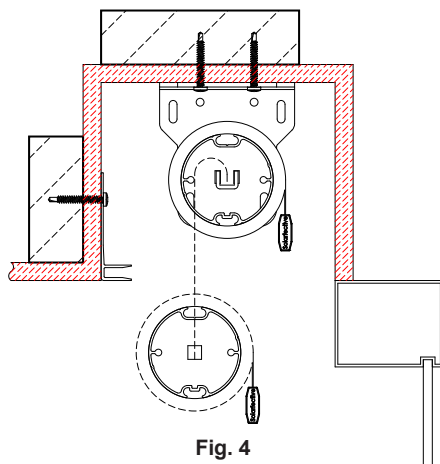

Fig. 4
- 4 If a single-banded shade: Insert idler bracket, then lift motor end up and over saddle and drop into place. (Fig. 4)